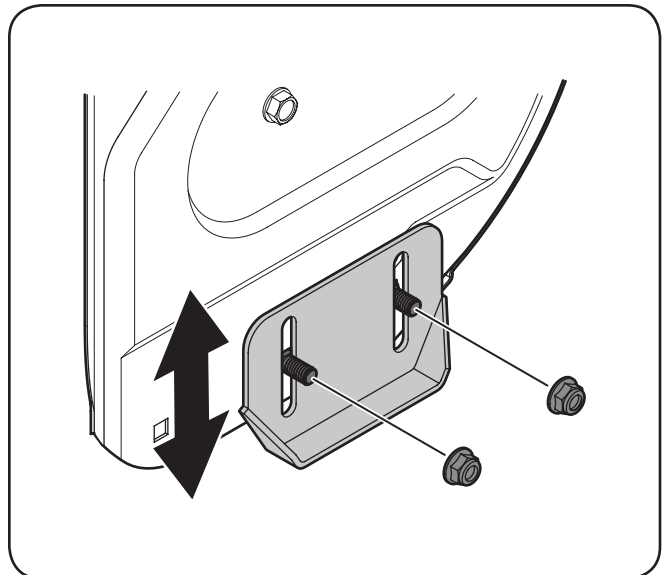

Figure 3-7
- Loosen the four hex nuts (two on each side) and carriage bolts. Move skid shoes to desired position. See Figure 3-7.